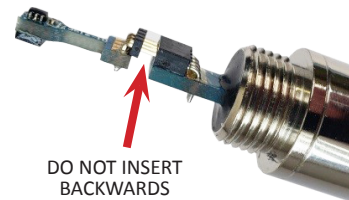

Figure 3 - Insert the Replacement Sensor into the connector.
3. Insert the new sensor into the connector (Figure 3), ensuring that the sensor board and connector board are in line as shown. **DO NOT INSERT BACKWARDS.**